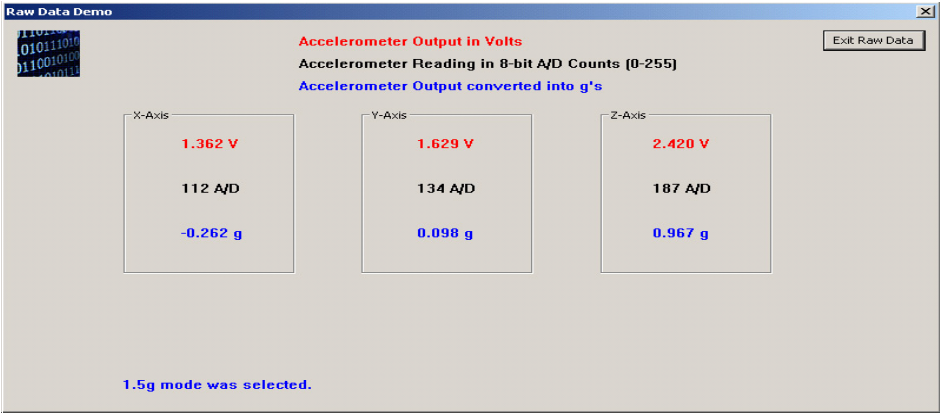

Figure 4-2. Raw Data Demonstration
1. Check for the ping packet. The Accelerometer application sends a ping packet to the PC\_Radio every two (2) seconds as indicated by LED2. The Accelerometer Board quickly blinks LED2 indicating that the ping packet is sent. The PC\_Radio receives the ping and toggles LED2 upon reception. Once connectivity between the PC\_Radio and the Accelerometer Board is verified, go to Step 2.
4. Select the Raw Data applet from the Triax application. The Raw Data applet shows the X, Y, and Z axes A/D values as reported by the Accelerometer Board. When the board is laying flat, the raw values should read approximately 0g for both the X and Y axes. However, the Z axis should read approximately 1g. As shown in Figure 4-2, when the Accelerometer Board is moved, the values of the X, Y, and Z axes are updated on the Raw Data applet.